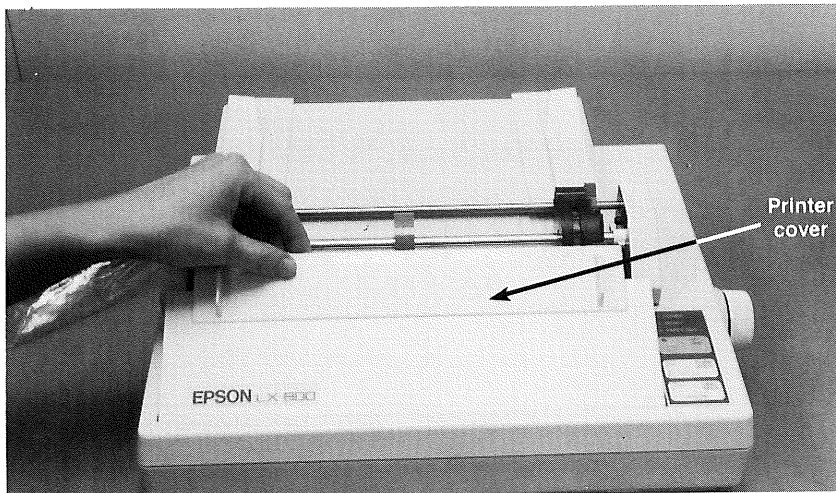

Figure 21.
34. Remove the printer cover by lifting up on the back edge. See Figure 21.